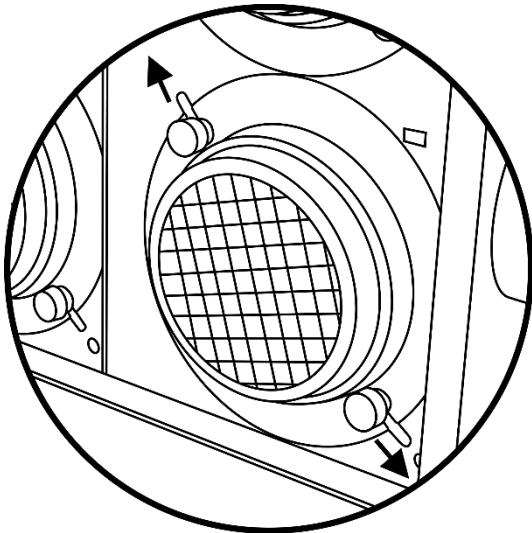

Fig. 03
- 01) Pull the 2 fixation screws on the front of the lamp housing (fig. 03).